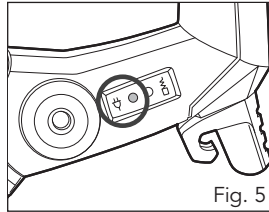

Fig. 5
2. Connect the tool to the mains power supply. The ready for use indicator LED will illuminate when the tool is connected to power and ready for use (Fig. 5).